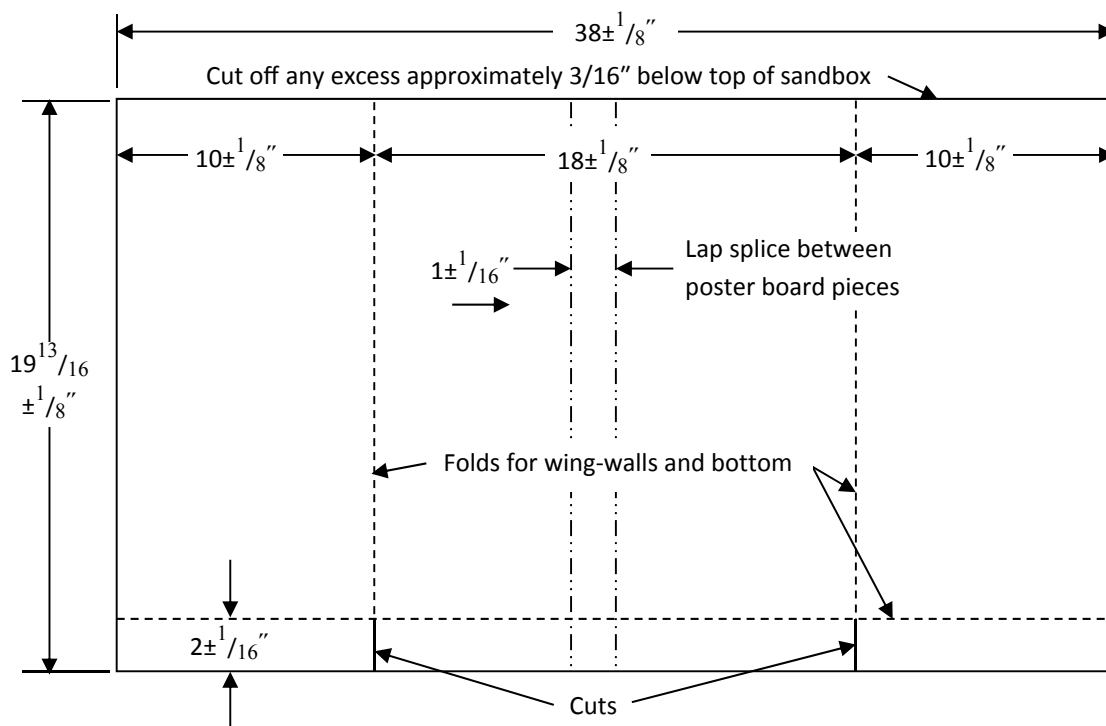

Figure 4: Dimensions of the posterboard wall facing (not to scale)
- Facing – Two pieces of poster board must be joined with a lap splice. See Figure 4 for dimensions.